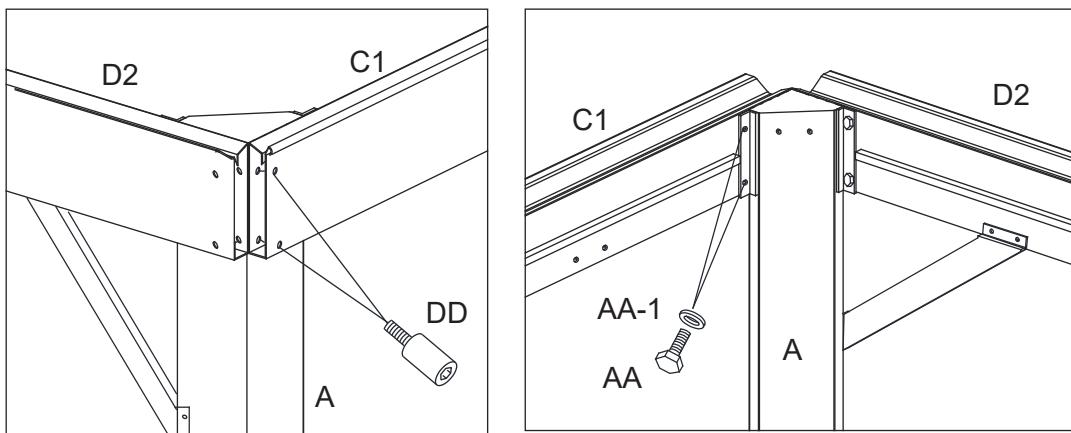
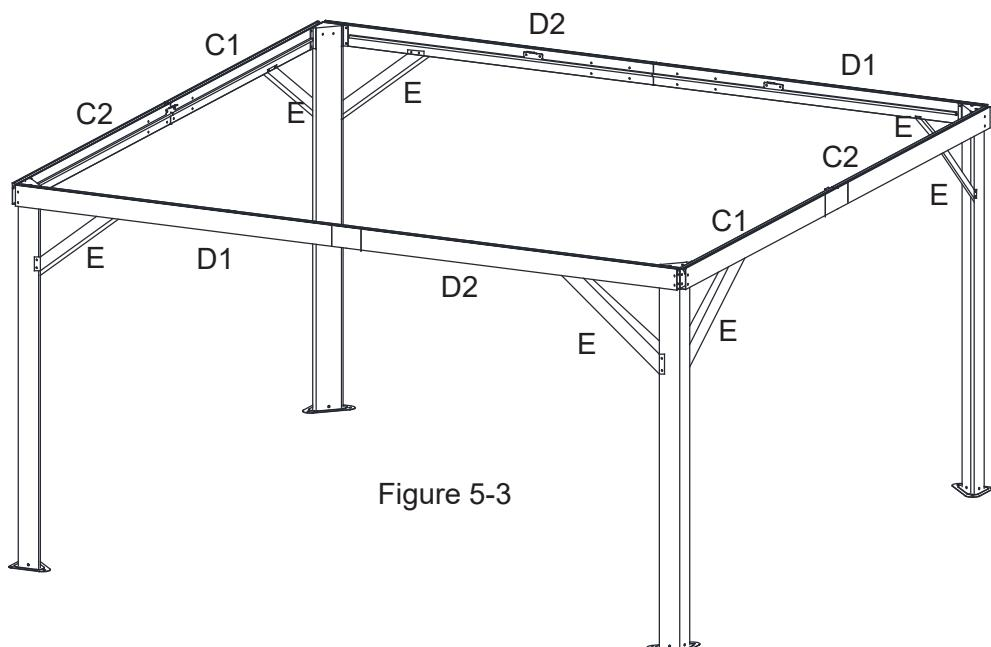

Figure 5-1
Figure 5-3
- 5.1. Attach Short Lintel (C1 and C2) to Corner Posts (A) first with Bolts (AA) and washer (AA-1) then with Bolts (DD). Tighten Bolts. Repeat for opposite side Short Lintels (C1 and C2). Tighten all Bolts. See Figure 5-1 and Figure 5-3.
- 5.3. Repeat for all Corner Posts and Lintels. Tighten All Bolts. See Figure 5-3.